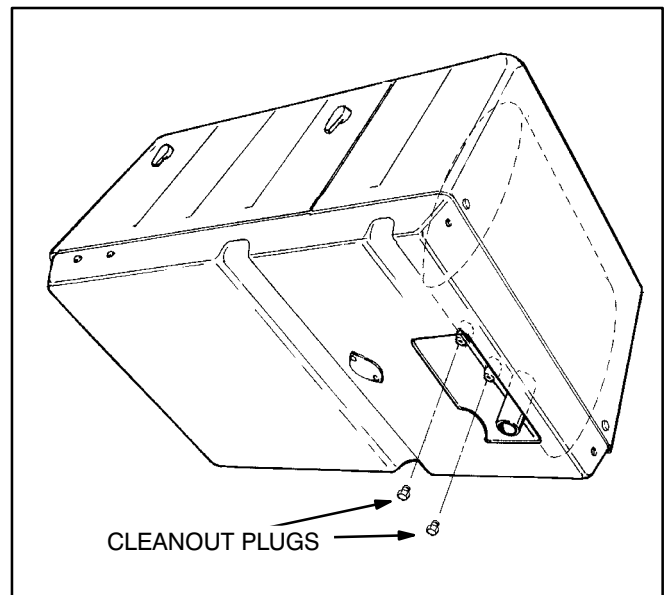

FIGURE 8. SPARK ARRESTOR CLEANOUT PLUGS
7. The spark arrestor cleanout plugs must be accessible for periodic cleaning (Figure 8).
8. The spark arrestor cleanout plugs must be accessible for periodic spark arrestor cleaning (Figure 8). See the OUTLINE DRAWING (Page 19) for the locating dimensions.